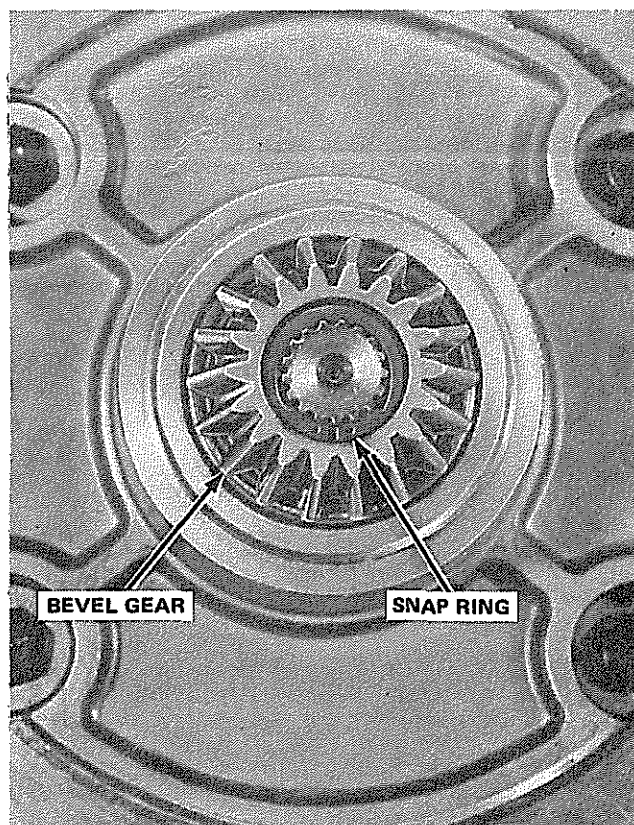
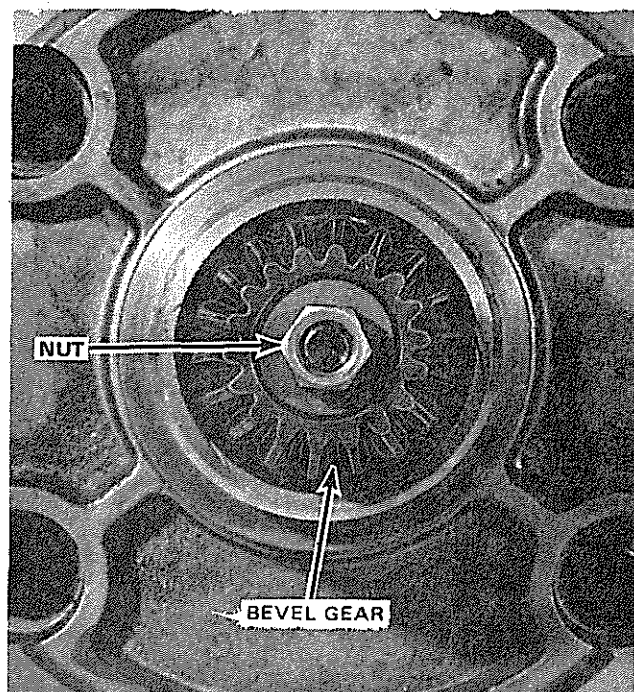

FIGURE 3-11
FIGURE 3-11A
2. When replacing the hydro package the bevel output gear must be removed from the old hydro and installed on the new one. The bevel gear is held on with either an external snap ring (fig. 3-11) or a nut (fig. 3-11A). Make sure snap ring is properly installed in the groove. The snap ring should be replaced when it shows signs of weakness or distortion.